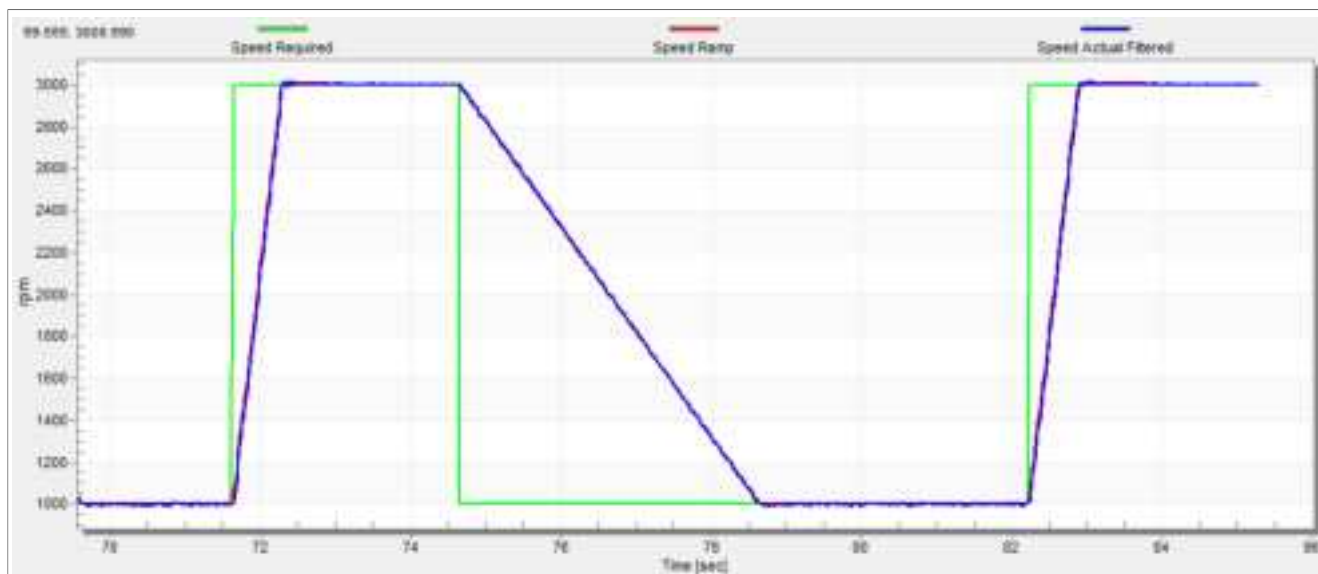

Figure 31. Speed profile
2. The increments are common for the scalar and speed control. The increment fields are in the "Speed loop" tab and accessible in both tuning modes. Clicking the "Update target" button applies the changes to the MCU. An example speed profile is shown in Figure 31. The ramp increment down is set to 500 rpm/sec and the increment up is set to 3000 rpm/sec.